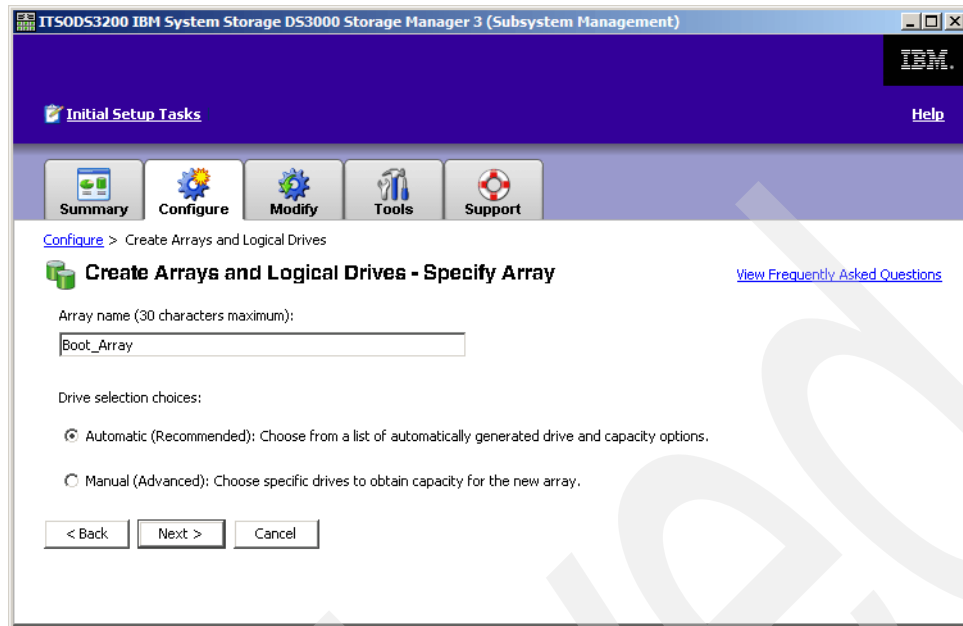

Figure 20-19 New array name
4. Type in an array name in the Array name section. In our example, we use **Boot\_Array** as the array name. Select the **Automatic** radio button (recommended option). This will automatically select the physical drives to create the logical volume. Click **Next** to continue. See Figure 20-19 on page 459.